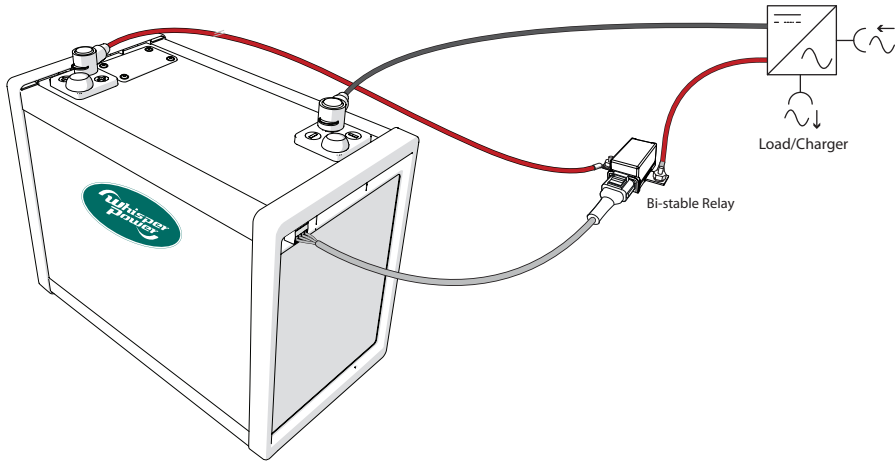

Figure 11. Securing the terminal covers
6. Place the terminal covers over the terminals (Figure 11).